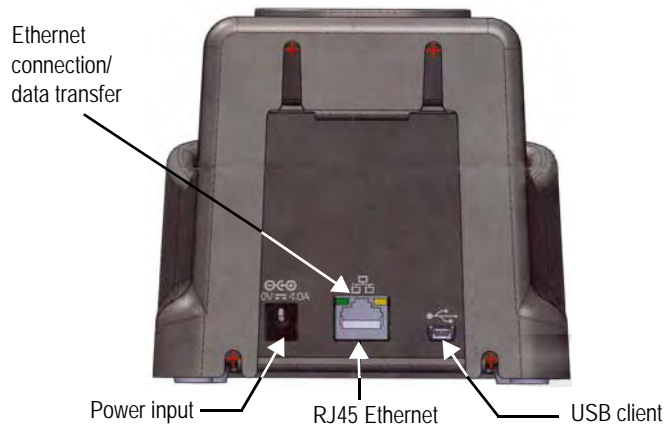

Figure 4.3 Nomad Communications Cradle Connections
- 6 Connect the other end of the AC adapter/battery charger into a power source. See Figure 4.3.
- 7 With an additional Ethernet cable, insert one of its connectors into the back of the cradle and the other into the back of the router. See Figure 4.3.